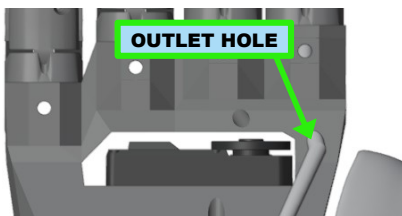

Figure 5.23: Inserting the tube into the tendon outlet hole (rear view)
2. Insert the other end into the final slot shown in figure 5.23: if the tube is too long, shorten it by cutting it with a utility knife.